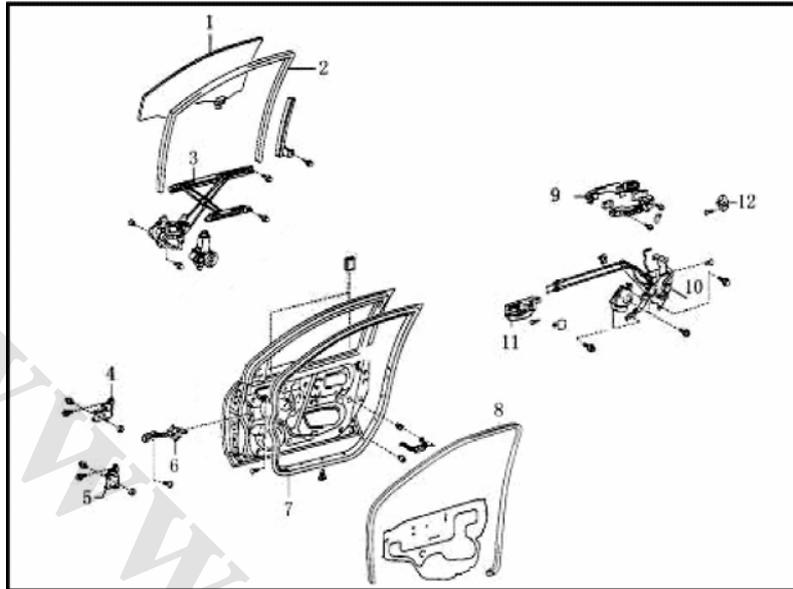

Fig. 7-5
I. Decomposition Diagram. See Fig. 7-5:
II. Front side door glass, as shown in Fig. 7-5: